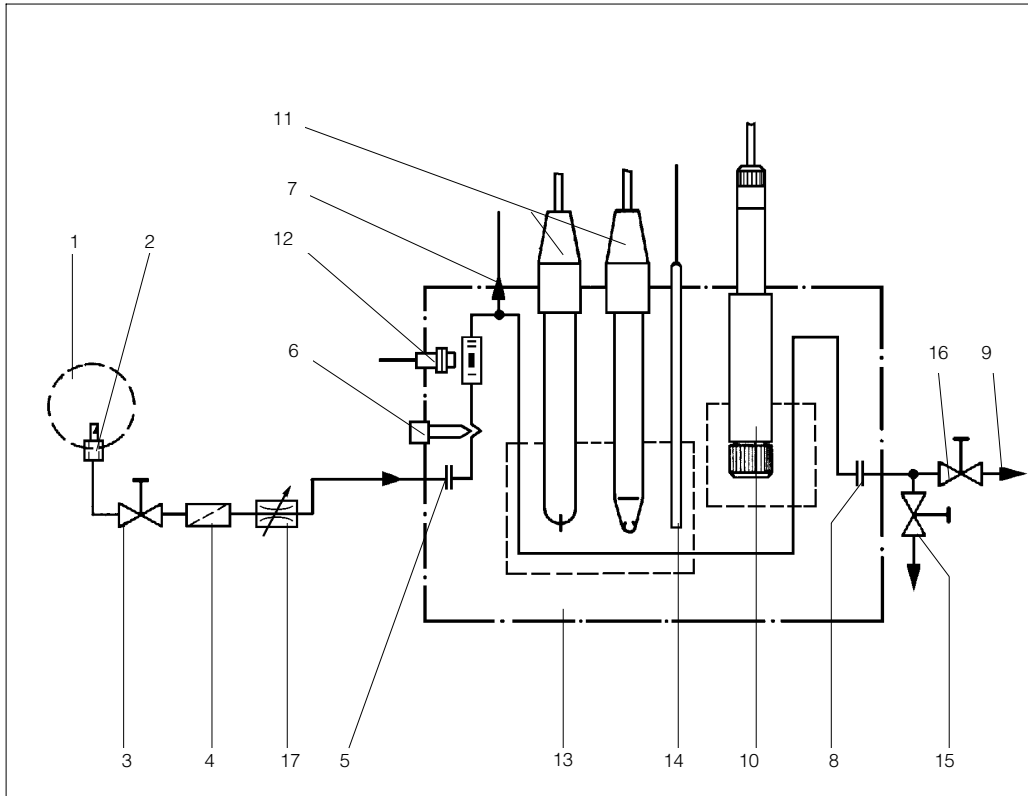

Fig. 4
- Install the required lines, for example, according to fig. 4.
Fig. 4 shows a typical installation of the flow assembly OCA 250 with measuring water removal. A free outlet is not required, i.e. the medium can be returned to an intermediate vessel.